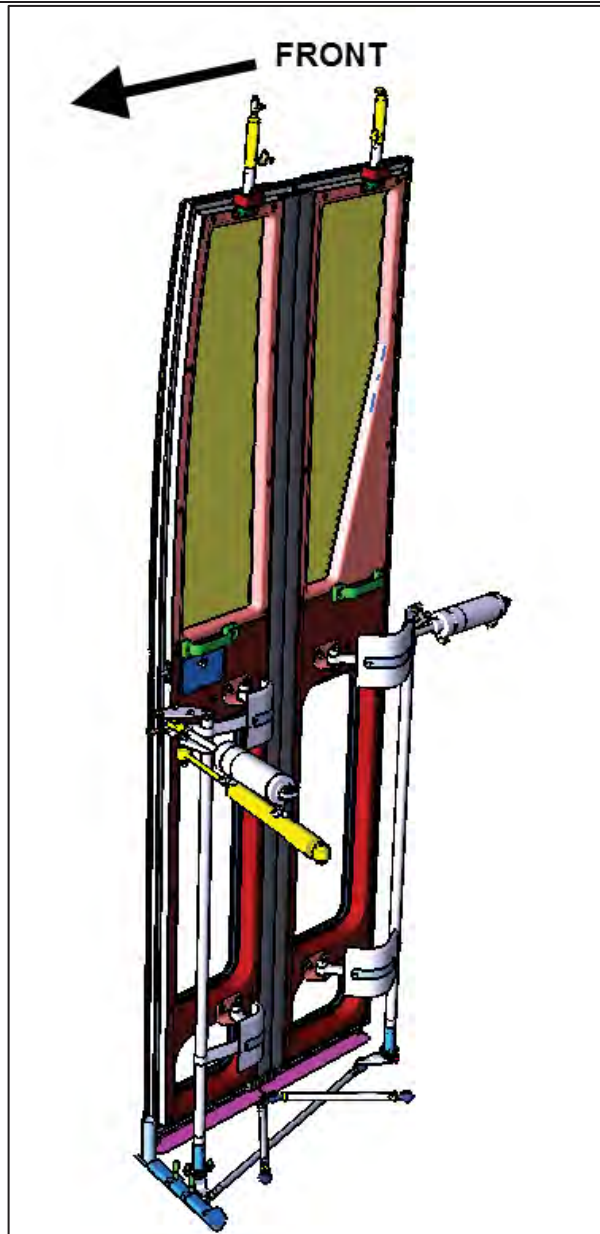

Figure 1
- 1) Locate the front entrance door on the vehicle.(Fig. 1)